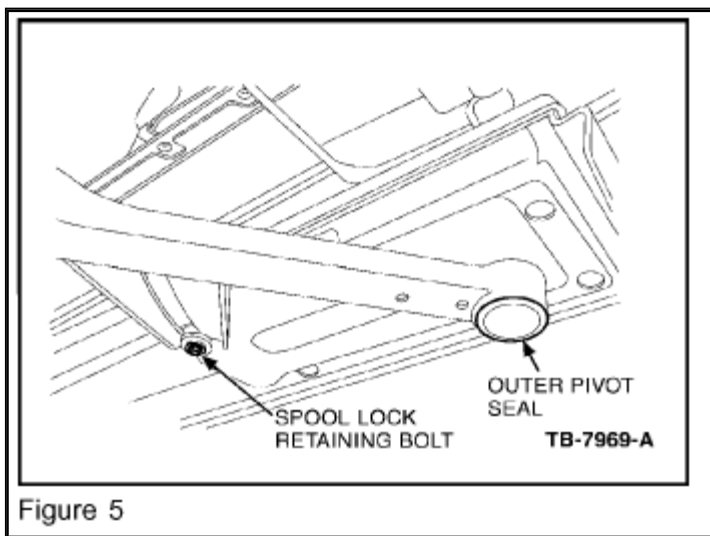

Figure 5
4. Remove the outer pivot seal (Figure 5).